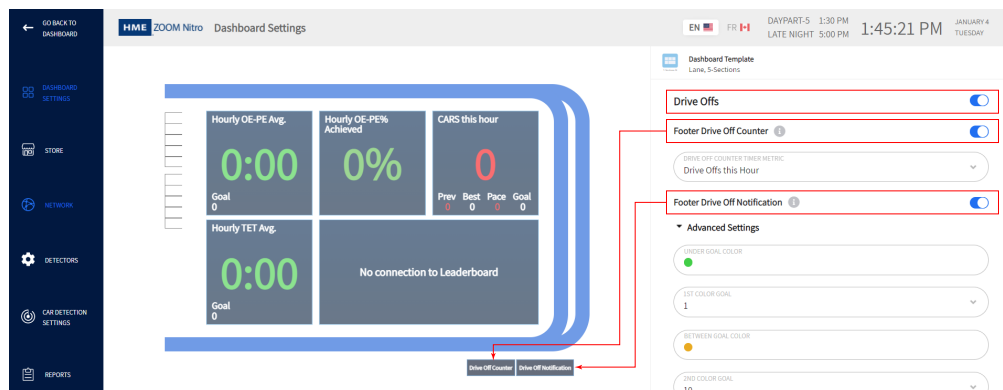

Fig. 7.10
2. Toggle all three Drive Off buttons to enable the counter and notifications, see Fig. 7.10